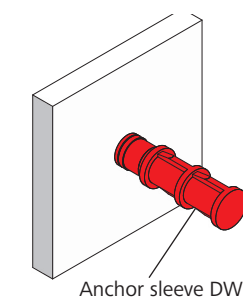

Fig. 6.3
2. Plug the anchor sleeve DW onto the nail holder (Fig. 6.3 and 7.5). It may be required to prevent the anchor sleeve from moving by wiring it to its position.